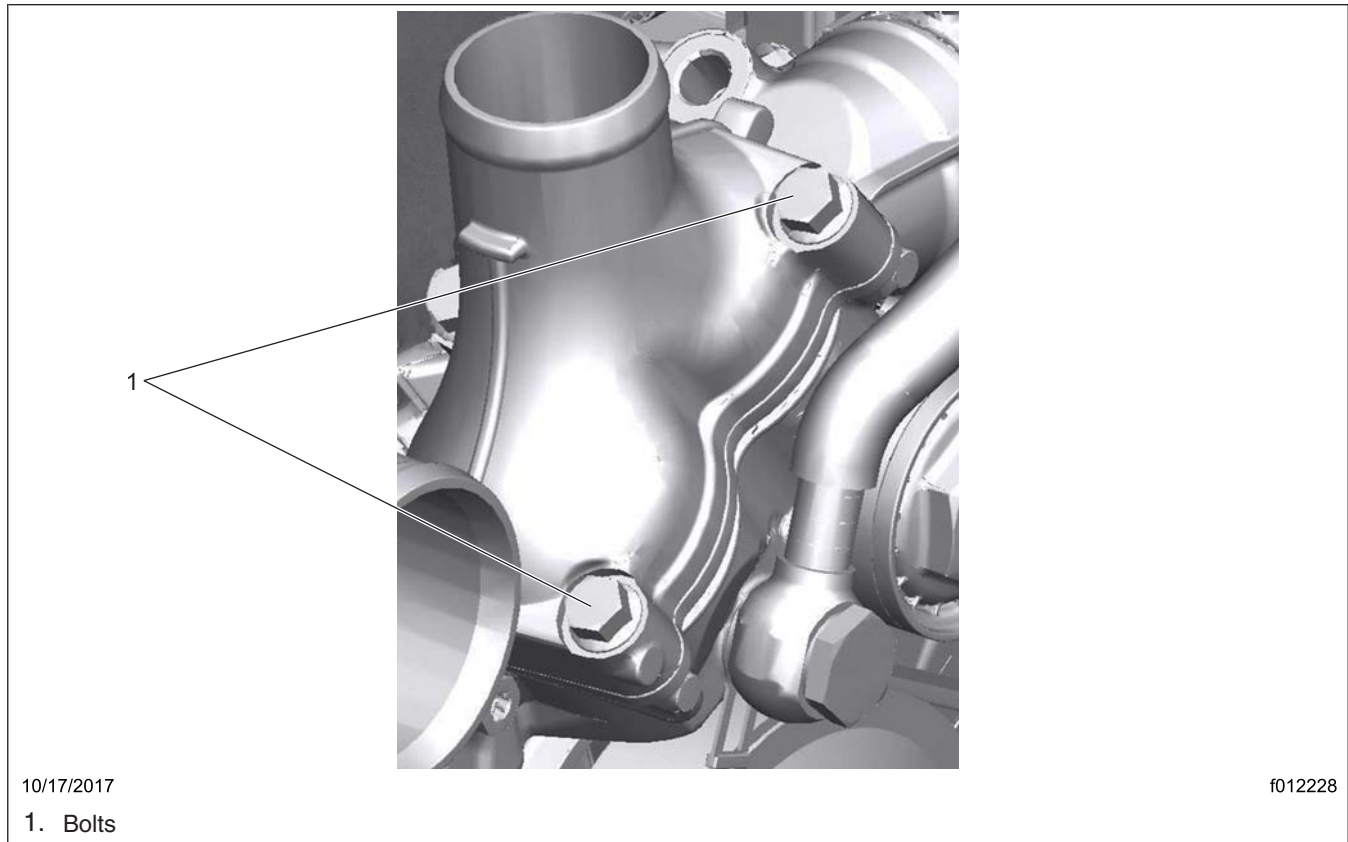

Fig. 2, Thermostat Housing Mounting Bolts, Right Side
10. Remove the right side thermostat housing mounting bolts. See Fig. 2. Discard the bolts.